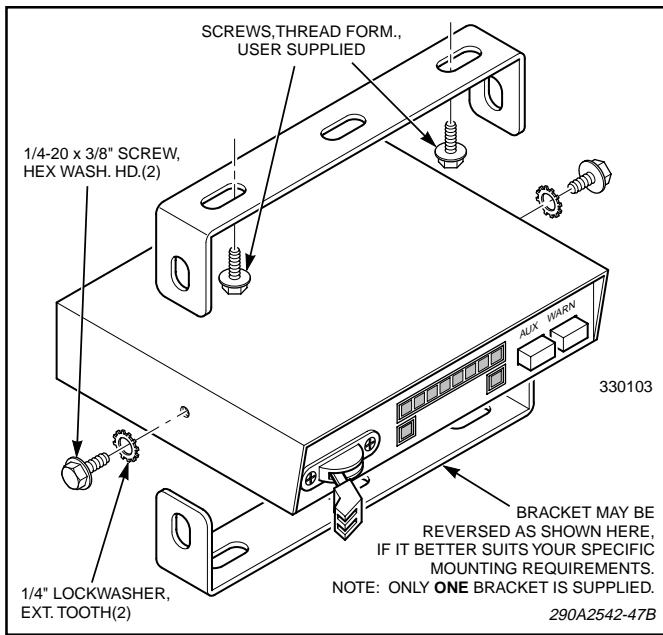

Figure 1.
See figure 1. The supplied mounting bracket allows the control unit to be mounted in a variety of positions. To install the control unit, proceed as follows:
6. Secure the mounting bracket to the control unit with the 1/4-20 hex head, thread forming screws and 1/4" external tooth lock washers (see figure 1).